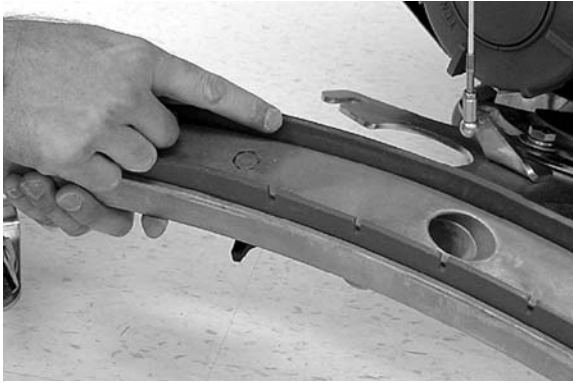

FIG. 43
7. Check the condition of the squeegee blade wiping edge (Figure 43). Rotate blade if worn. (See SQUEEGEE BLADE REPLACEMENT)